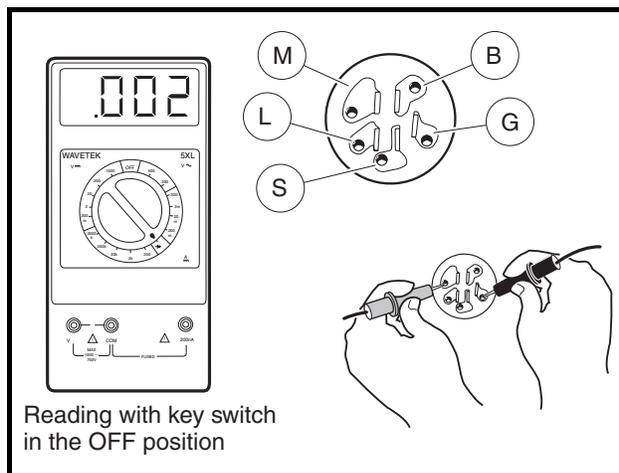

Figure 11a-24 Key Switch Test – Engine Kill Circuit
5. Place the red (+) probe on the (M) terminal and the black (–) probe on the (G) terminal. With the key switch OFF, the reading should indicate continuity. With the key switch ON, the reading should indicate no continuity. If either reading is incorrect, replace the key switch (**Figure 11a-24, Page 11a-29**).